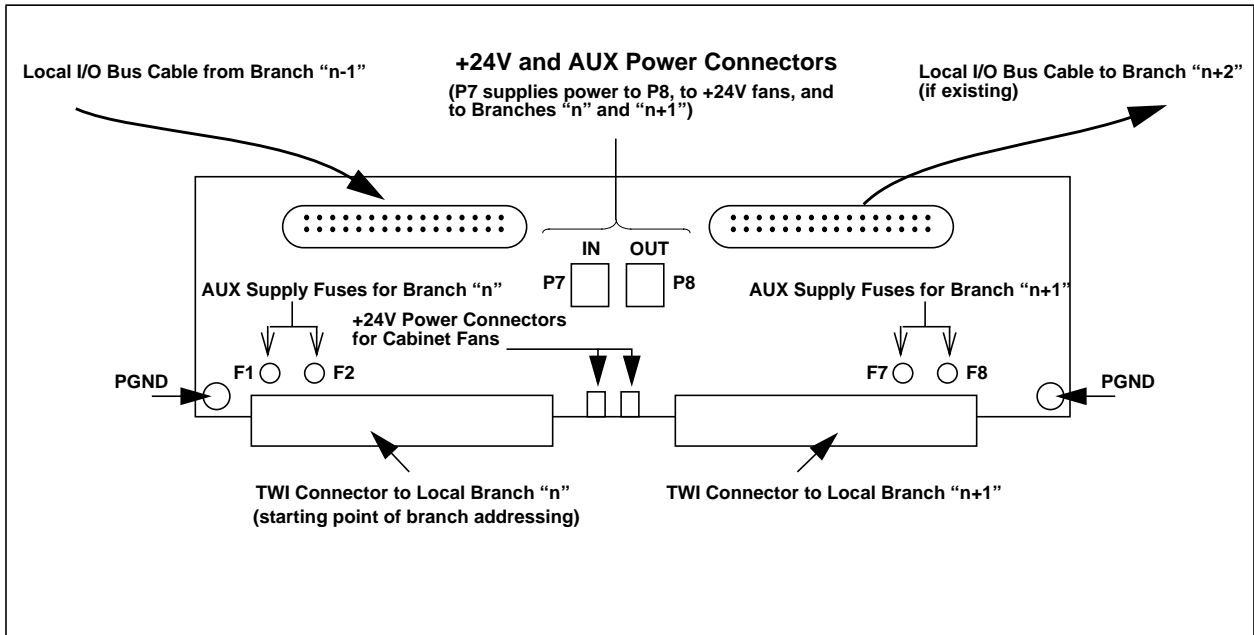

Figure 26-8. Ovation I/O Transition Panel (ROP)
- I/O Transition Panel (ROP - 4D33922) - Connects to two branches of I/O, providing a point to bring in +24V redundant power, auxiliary power, and the local I/O communications bus (refer to Figure 26-8).
- I/O Transition Panel (ROP - 4D33922) - Connects to two branches of I/O, providing a point to bring in +24V redundant power, auxiliary supplies, and the local I/O communications bus (refer to Figure 26-8).